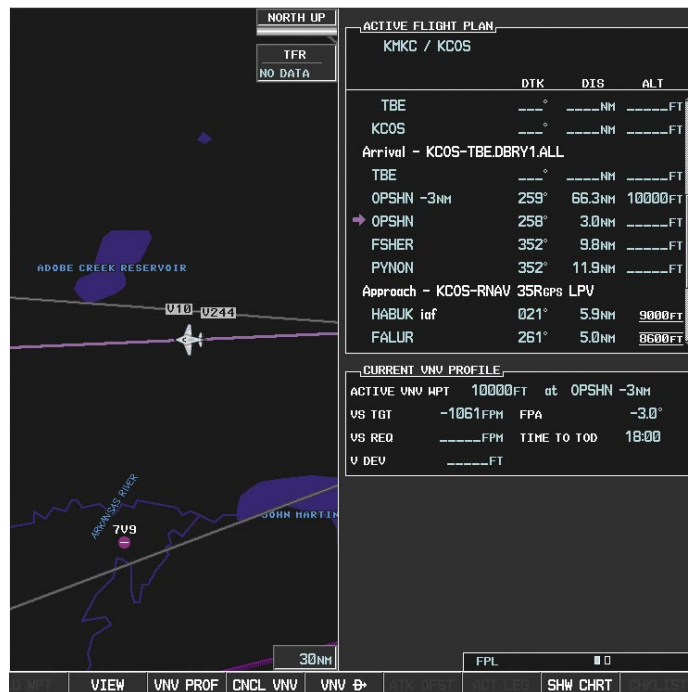

Figure 5-113 Loaded Approach
- g) With 'LOAD?' highlighted, again press the **ENT** Key. The selected approach is added to the flight plan as seen in Figure 5-113.